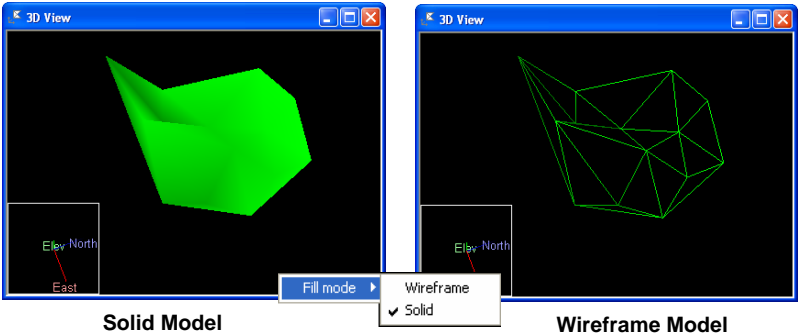

Figure 4-29. 3D Image Model Types
The 3D image can be viewed as a solid model or a wireframe model. To select the desired model, right-click outside the image and click the model type on the pop-up menu (Figure 4-29).
- Click the *Image* tab. Right click on the corresponding image in the left panel and select “*Set as Surface Texture*” from pop-up menu (Figure 4-29 on page 4-33).